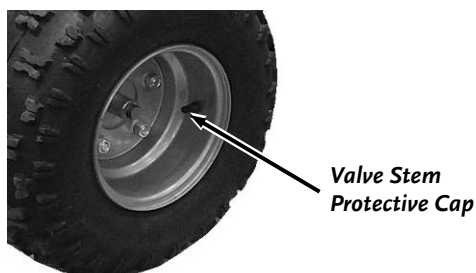

Figure 9
1. Remove the Valve Stem Protective Cap (**Figure 9**) and check the tire pressure with a Tire Pressure Gauge.